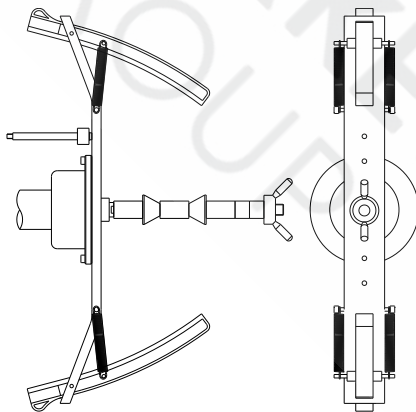

Fig.4.2.1
9. Apply the calibration weight on the inner side of the adaptor with the weight part to the adaptor. Fig.4.2.1